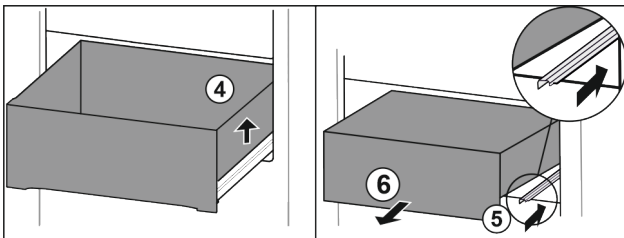

Fig. 87
- ▶ Lift drawer on the right. Fig. 87 (4)
- ▶ Insert right rail. Fig. 87 (5)
- ▶ Remove drawer to the front. Fig. 87 (6)